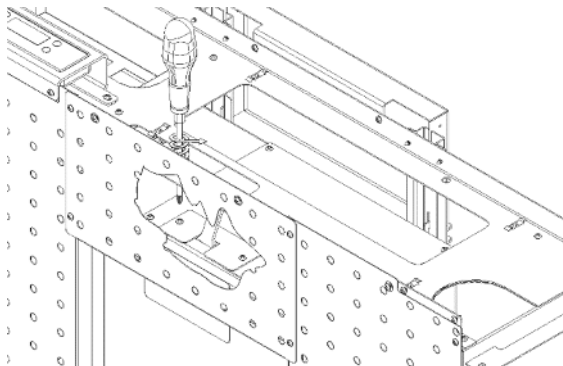

Figure 67 – Removing the blocking top
n) Once the electric connections are completed, and before replacing the side cover, be sure to remove the locking pin of the ductable air damper by releasing the screws that secure it to the combustion chamber, as illustrated in Figure 67.